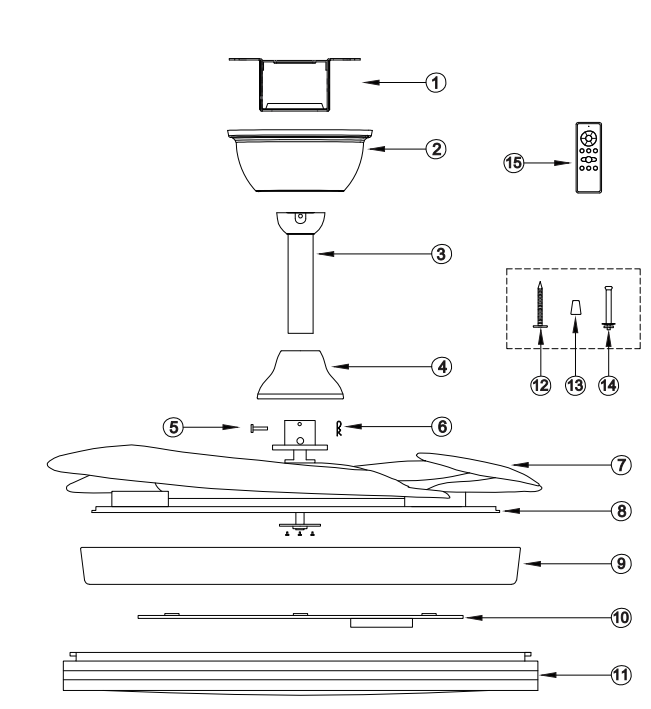

FIGURA 1
2) RETIRE EL DOSEL PARA CIELO RASO (NO. 3 - FIGURA 1) AFLOJANDO LOS DOS TORNILLOS CON RANURAS.